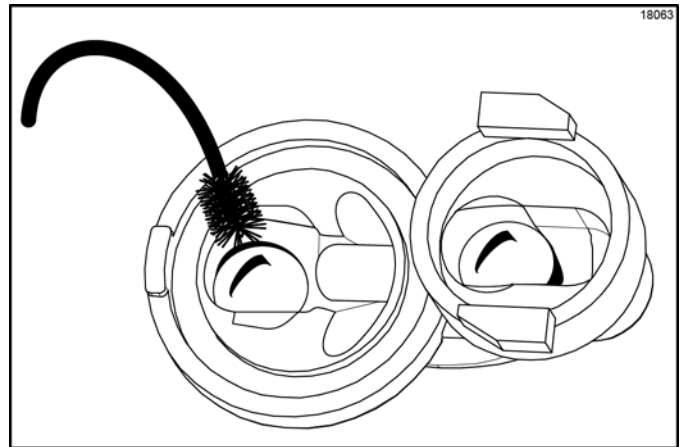

Figure 6-102
- Insert the black shielded brush into the top side of the inlet valve. Scrub this area, specifically around the steel ball. (See Figure 6-102.)